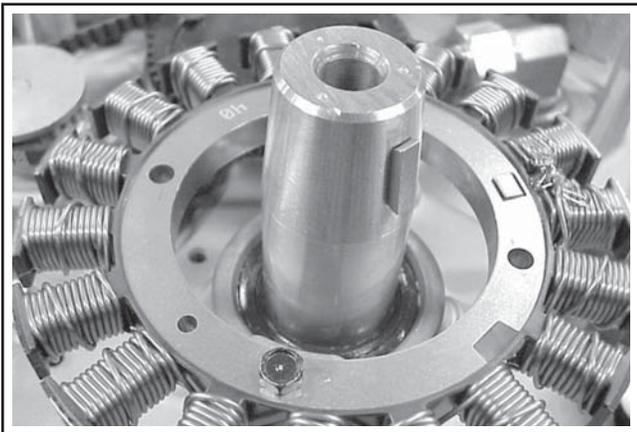

Figure 11-67. Installing Key in Flywheel End of Crankshaft.
1. Install the woodruff key into the keyway of the crankshaft. Make sure that the key is properly seated and parallel with the shaft. See Figure 11-67.